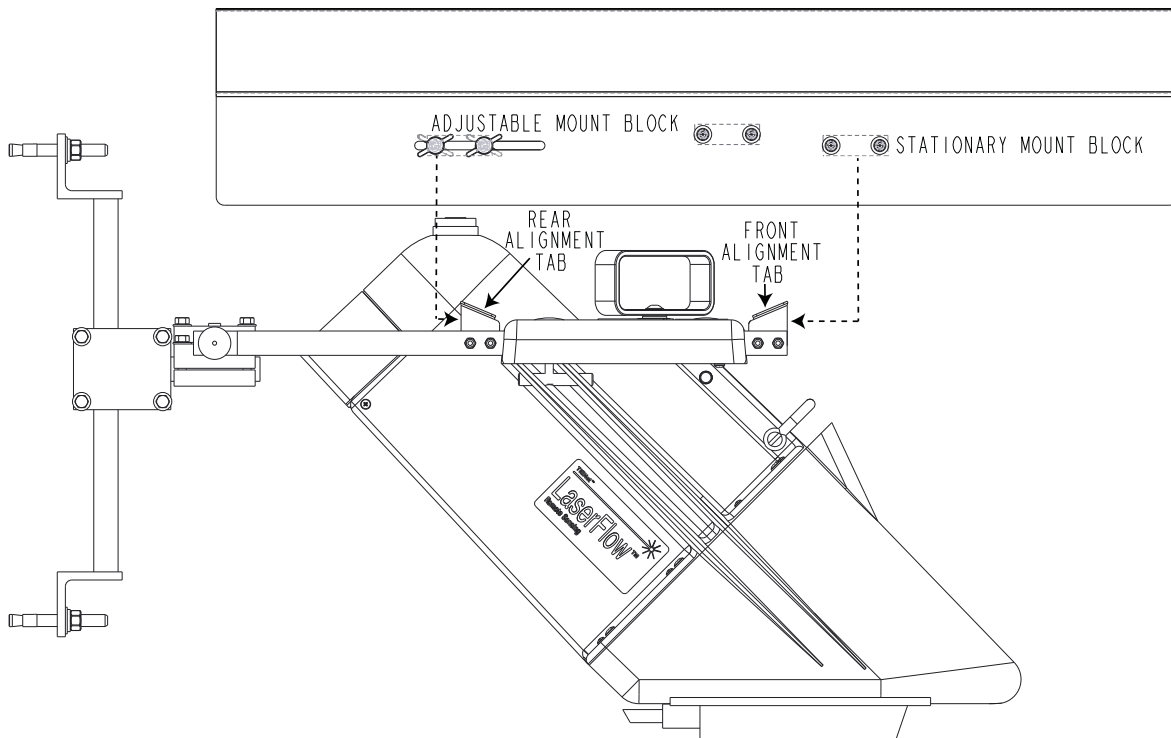

Figure 2-34 Mounting the sunshade
2. Position the sunshade on top of the Laserflow sensor mount and slide the sunshade toward the rear until the four stationary mounting blocks (two on each side of the sunshade) fit under the two front alignment tabs of the Laserflow sensor carrier. See Figure 2-34.
3. Slide the two adjustable mounting blocks (connected to the tee knobs) until they fit under the rear alignment tabs of the Laserflow sensor carrier. See Figure 2-34.